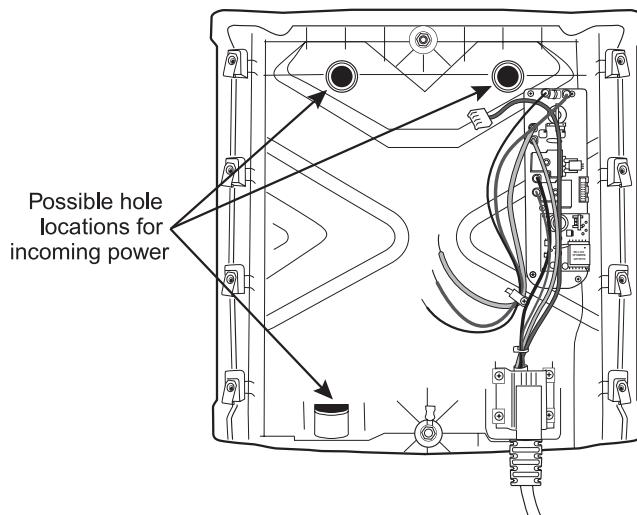

Figure 4
3. Determine which of the three locations in the charger base will be used for the incoming power cable and drill out the plastic at that location (Figure 4).